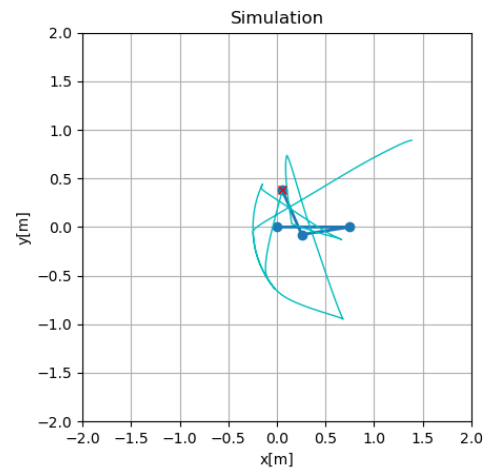

Fig. 6: Simulation for Joint 1 Priority
- The Fig.6: shows the **end-effector trajectory** when **joint 1 position** is prioritized over the end-effector task. The manipulator moves towards the target, but its motion is **constrained** by the higher-priority joint position task.